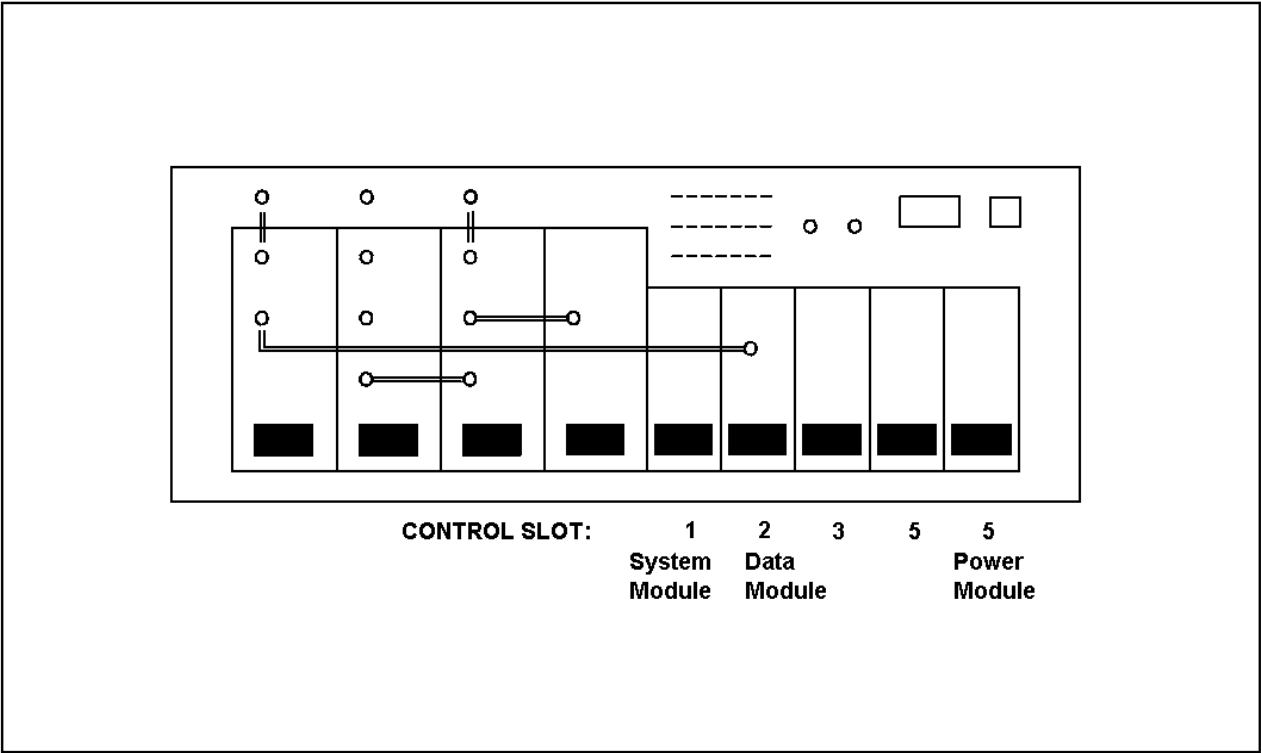

Figure 5 - MASTR III Station
5. Connect the BNC-BNC Cable (344A4688P1) between **RF\_IN** of the Transmit Synthesizer and the Data Module as shown in Figure 5.